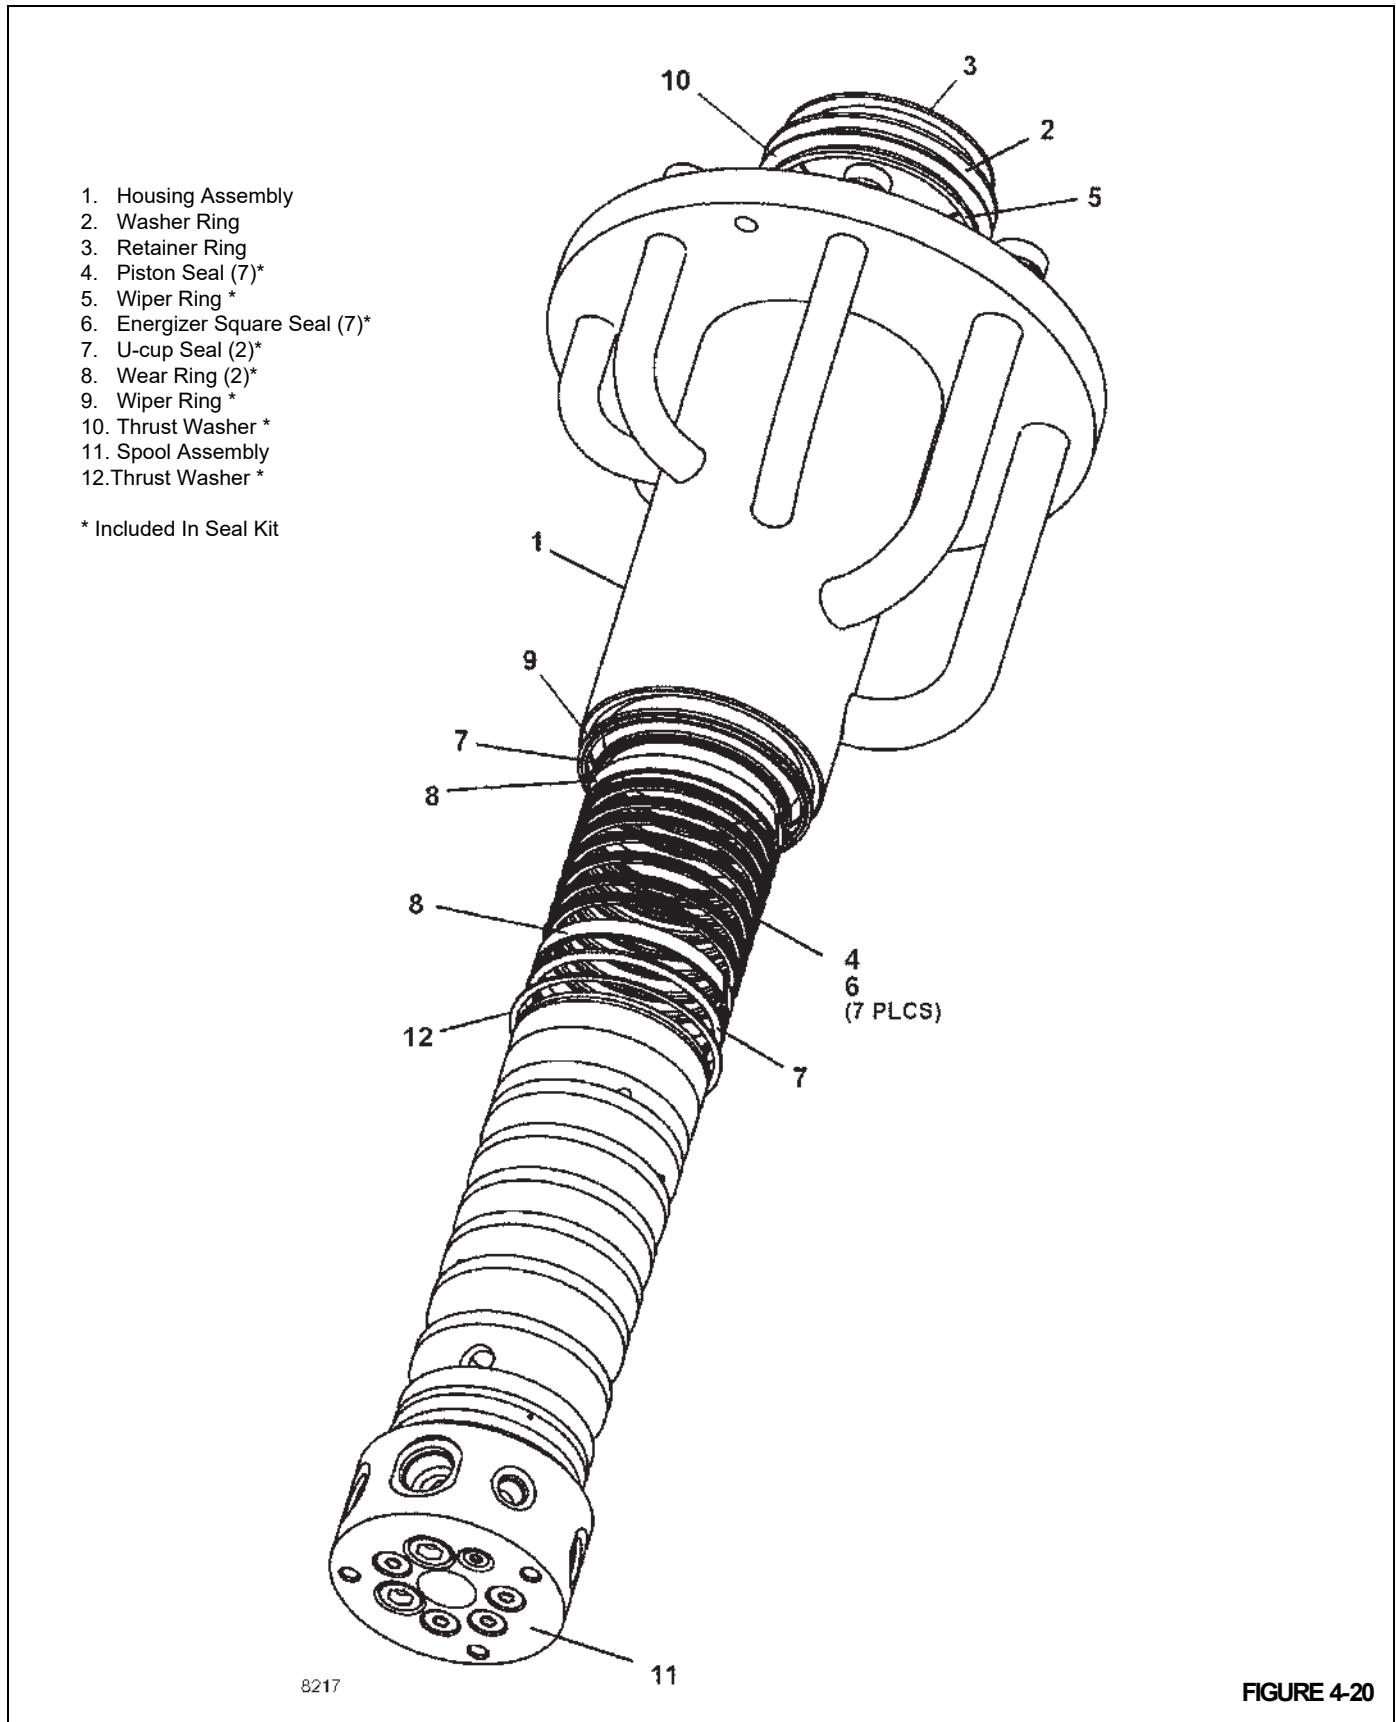

FIGURE 4-20
1. Remove retaining ring 1 Figure 4-20 and retainer 2. Remove and discard thrust washer 3 and O-ring 4.
NOTE: The hard rubber piston seal 11 Figure 4-20 must be warm before installation. Heat the seal with a trouble lamp. Do not apply lubricant to the loader before installation.